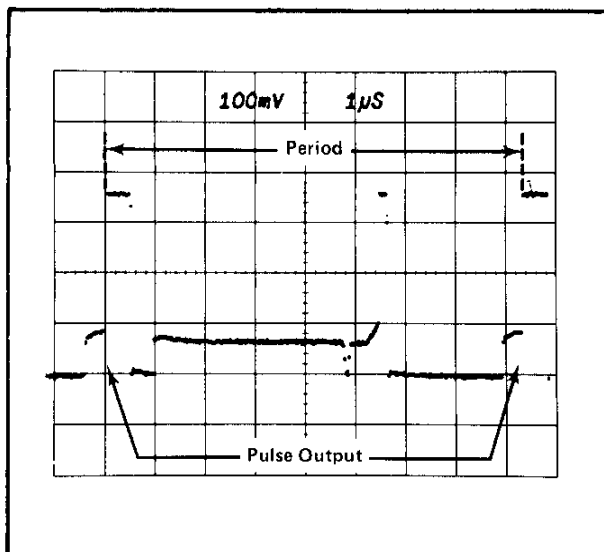

Fig. 5-5. Waveform showing PULSE OUTPUT period.
b. Set the 7T11 Trig Level control for a stable display and use the Time Position control to display two pulses. Note that the desired pulses have the wider top, and are not preceded by a sharply rising foot. See Fig. 5-5.